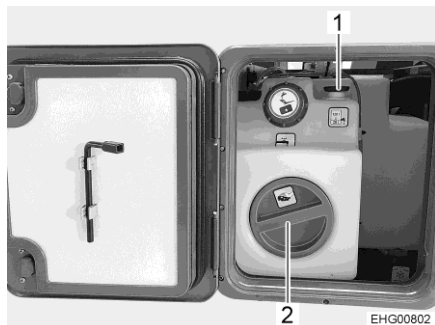

Fig. 186 Water tank with rotary handle
- Turn the rotary handle (Fig. 186,1) on the water tank in an anticlockwise direction as far as possible beyond the resistance to fully open the drainage opening.